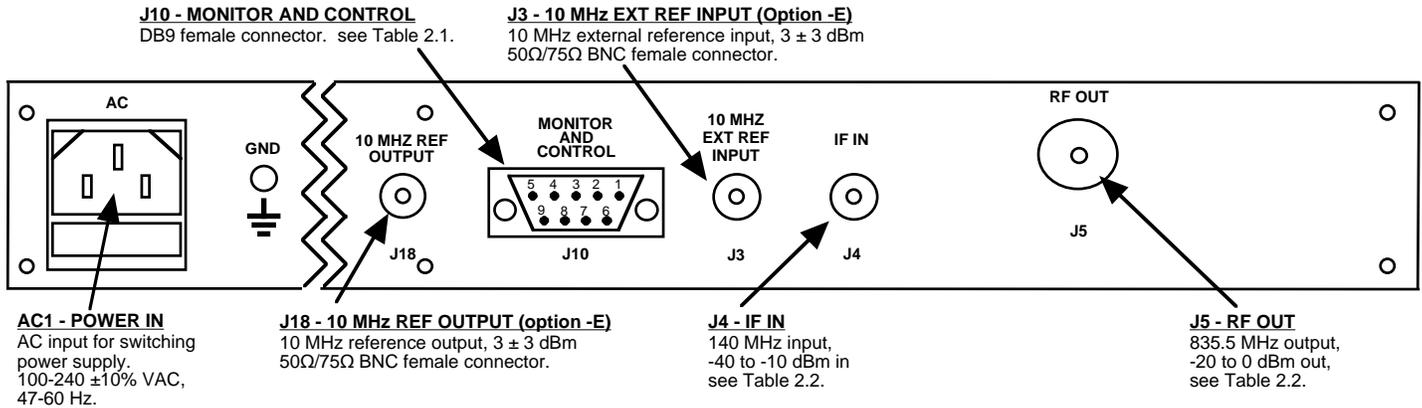

FIGURE 2.2 Rear Panel I/Os
2.2 Rear Panel Input/Output Signals - Figure 2.2 shows the input and output connectors on the rear panel.
1. Connect a -10 dBm to -40 dBm signal to IF In, J4 (Figure 2.2)